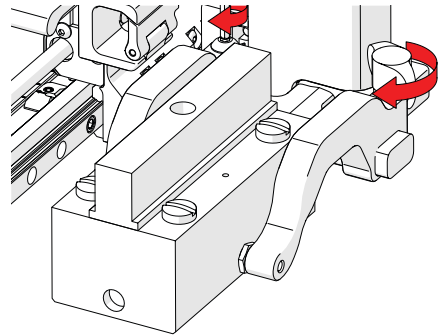

Fig. 31 - Pivot buttons
7. Tighten both the probe holder adjustment knob and the arm clamp screw (Fig. 31) while ensuring the wedge remains centred with the yoke.